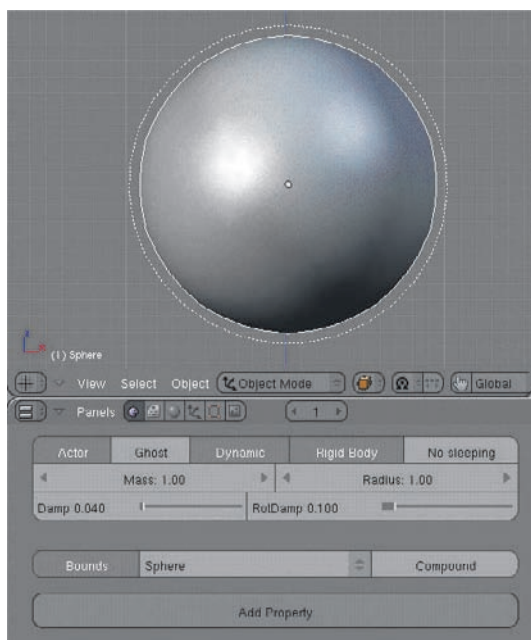

Figure 6.33 Making the sphere a Rigid Body object
5. Select the Icosphere. Go into the Logic buttons and make the sphere an actor with Dynamic and Rigid Body selected, as shown in Figure 6.33. Under Bounds, select Sphere. Next, select each of the Cube objects in the 3D viewport, go into the Logic buttons, and press the Bounds button to select Box. You do not need to make the Cube objects actors. I've also added a level 2 Subsurf modifier to the sphere and used Set Smooth. This is not necessary, but it will make your scene look a bit nicer.